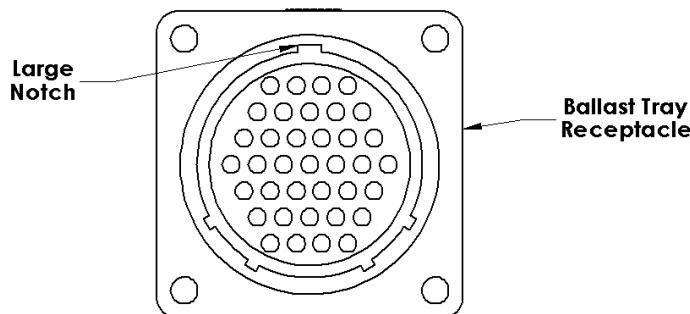

Fig. 5
Pay close attention when connecting the (2) canopy and the (2) bench cord connectors to the (4) ballast tray receptacles. Notice each receptacle on the ballast tray has 5 notches on the inside of the alignment ring. Notice the largest notch on each of the ballast tray receptacles is located in the 12 o'clock or the straight up position (see Fig.5). Notice each plug on the end of each canopy and bench cord has 5 notches on the outside of the alignment ring. The largest notch on the cord connector must line up with the largest notch on the ballast tray receptacle. The large notch on the ballast tray receptacles are positioned at 12 o'clock or straight up. Each receptacle on the ballast tray is numbered 1 - 4. Each plug connector is numbered 1 - 4.
ATTENTION: Make sure the large notch on the canopy and bench cord connector alignment rings are in the 12 o'clock or the straight up position allowing proper alignment with the ballast tray receptacle alignment rings (Fig. 5). Push gently each canopy and bench plug connector into each corresponding ballast tray receptacle. Turn locking ring clockwise to secure.